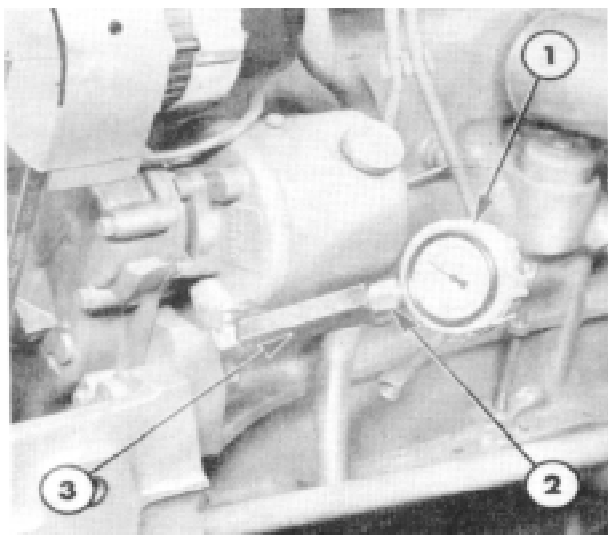

Figure 8
2. Connect Adaptor, Toll No. EF-1401 and Pressure Gauge, Tool No. EF-1400, to the output elbow, Figure 8.